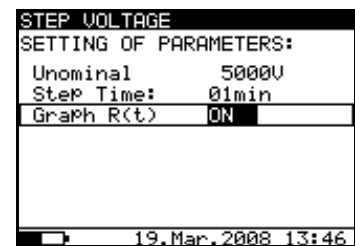

Fig. 26. Set-up menu in Step Voltage measurement
- Press the **SELECT** key, Set-up menu appears on display, see the **Fig. 26**.